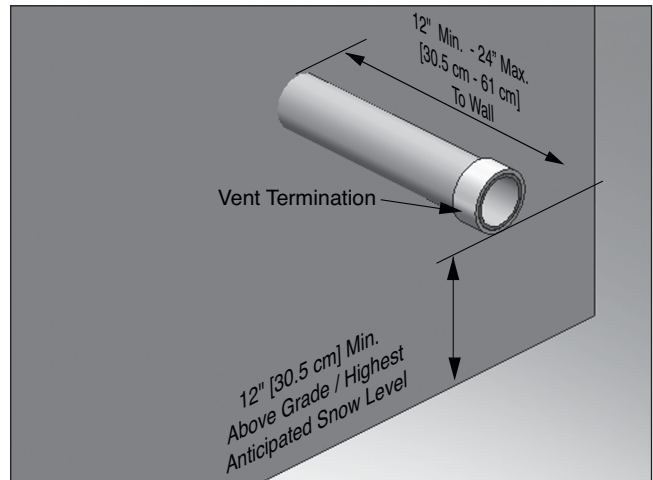
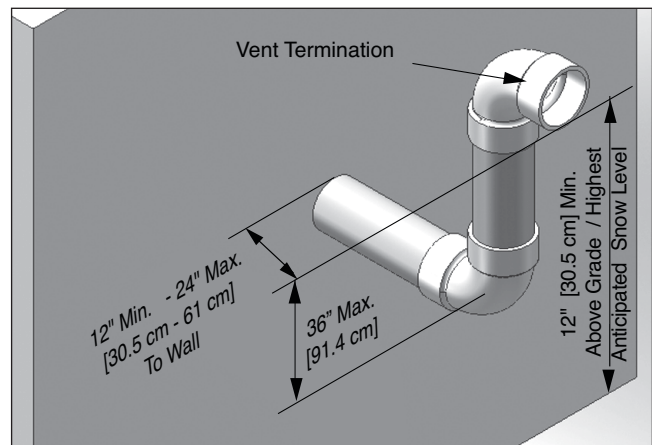
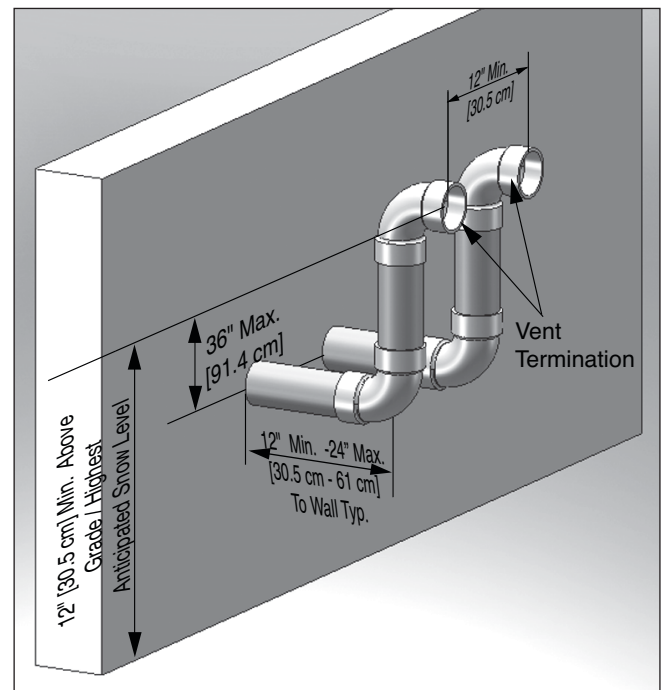

Fig. 17 - Category IV - Sidewall Termination of Vent Pipe
Fig. 18 - Category IV - Sidewall Snorkel Termination of Vent Pipe
Fig. 19 - Category IV - Sidewall Termination of Multiple HeatMaster TC Combination Boilers / Water Heaters
- Using a coupling as shown in *Fig. 17*.
- Using a 90° elbow as shown in *Fig. 18*.
3. Locate the vent pipe penetration to provide clearances as described in *Fig. 17* and *Fig. 18* on page 22.
- Using a coupling as shown in *Fig. 17* on page 22.
- Using a 90° elbow as shown in *Fig. 18* on page 22.
Do not extend the vent pipe outside the sidewall beyond the dimensions shown in *Fig. 17* and *Fig. 18* on page 22. Extended exposure of the vent pipe could cause condensate to freeze and block the vent pipe, resulting in substantial property damage, serious injury, or death.
2. Each vent termination must be a minimum 12" [30.5 cm] from the adjacent termination for installations in the U.S. as shown in *Fig. 19* below. For installations in Canada, provide clearances as required by CAN/CSA B149.1.
- *Fig. 19* shows one option for vent terminations of multiple HeatMaster TC combination boilers / water heaters. Either termination option shown in *Fig. 17* or *Fig. 18* on page 22 can be used for multiple HeatMaster TC combination boilers / water heaters. The 12" [30.5 cm] minimum distance between centerlines of the vent piping must be maintained for any chosen option.
- Reference *Fig. 17* and *Fig. 18* on page 22 for vent termination dimensions for each unit installed in a multiple installation.